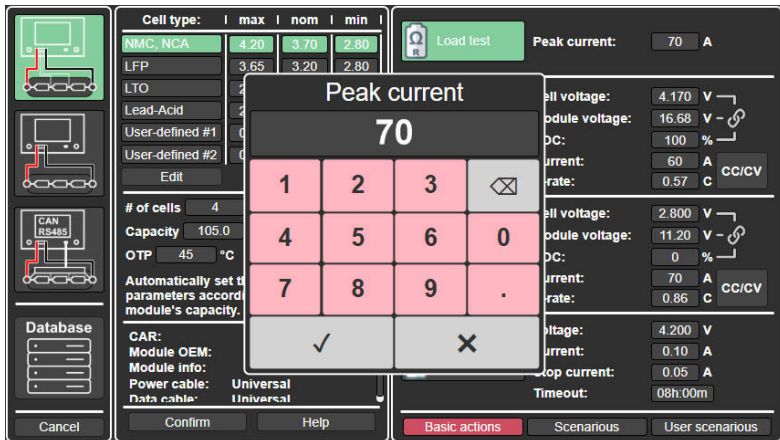

Figure 19
**4) Set the test current value** (see Section 6.4.1 for details). Clicking on the current value opens a window where it can be edited (see Fig. 19).